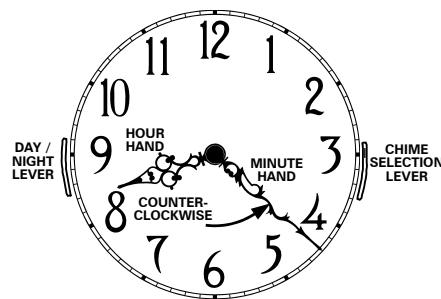

FIGURE 6
To set the time, move **ONLY THE MINUTE HAND** counterclockwise (backwards) until hour and minute hand are at the correct time. (See figure 6).
**DO NOT MOVE THE HOUR HAND WHEN SETTING THE TIME.** The hour hand will move automatically when the minute hand is moved. By moving the minute hand counterclockwise it is not necessary to wait for the clock to chime as the minute hand passes each quarter hour. (See figure 6). The movement has a self correcting feature which synchronizes the chimes with the time. If after setting the clock on time, it does not chime properly, permit it to operate 2 hours to correct itself.